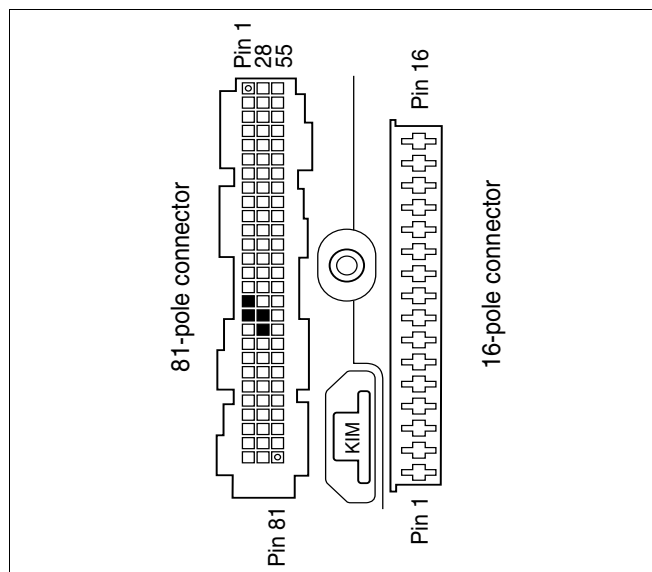

fig. 11 UBA 3 installation base
- Test the tacho cable to make sure that there is no short circuit in it and that it is not broken (see fig. 11).